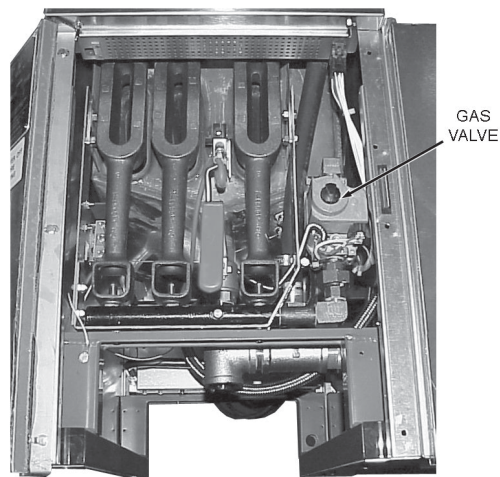

Fig. 9
### GAS VALVE (Fig. 9)
3. Turn the gas valve (located inside the cabinet door - see Fig. 9) to the ON position.